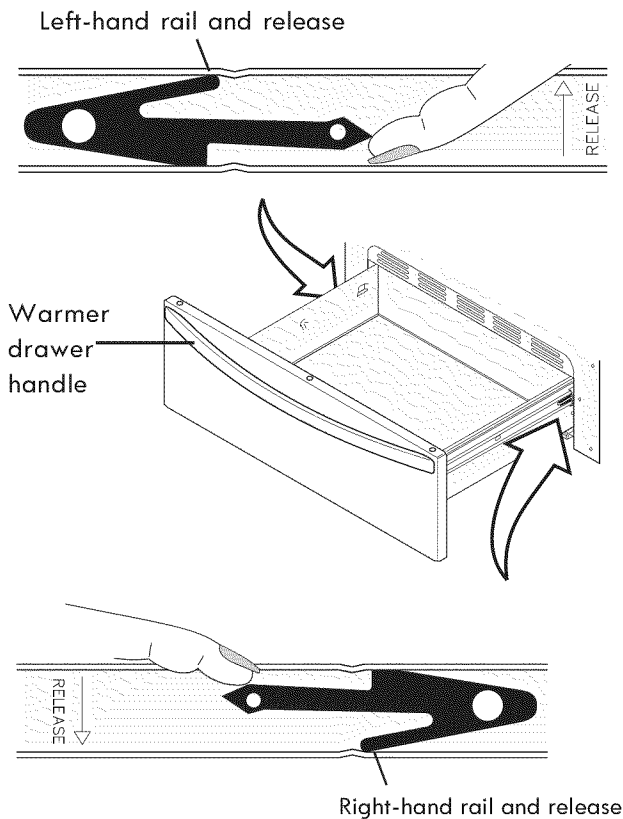

Figure 29: Removing the warmer drawer
3. On left warmer drawer rail, locate black release lever and press up with finger while pulling out slightly on the oven drawer handle. On right warmer drawer rail, locate black release lever and press down with finger while pulling out slightly on the warmer drawer handle (See Figure 29).